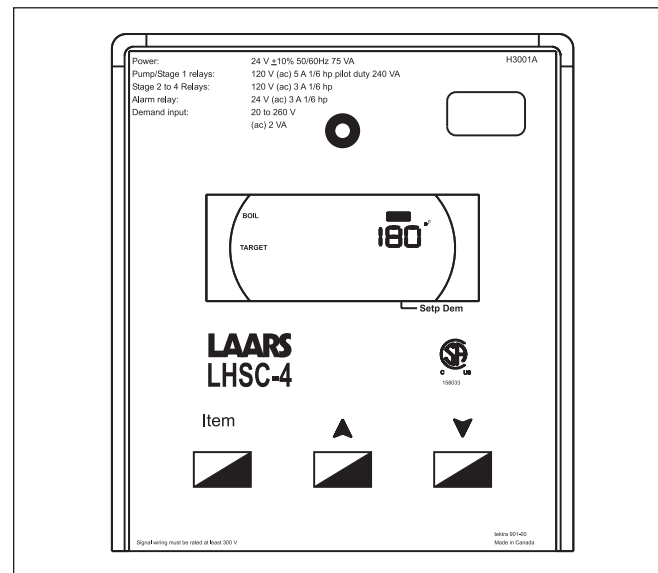

Figure 25. Temperature Control.
There are three black programming buttons on the Temperature Control (see Figure 25). Press and hold all three programming buttons until the word **ADJUST** appears in the upper right corner of the LCD display (it replaces the word **VIEW**).
The control also evaluates the sensor(s) installed in the system. If the control is not in warm weather shutdown (WWSD), and the sensor(s) are below the target temperature, the “Dem” segment is turned on in the display. The control energizes the pump (on pump mounted boilers) and energizes both “PMP” terminals. The pump symbol appears in the display (see Figures 25 and 26). The control then operates the stages to maintain the setpoint temperature.
**Step 2:** Press the three programming buttons to enter **ADJUST** mode (Figure 25). Press **ITEM** to select the programming item, and the arrow keys to adjust the setting. **TARGET TANK** is desired tank temperature. Recommended settings with a desired tank temperature of 125°F:
**Step 3:** Press the three programming buttons to enter **ADJUST** mode (Figure 25). Press **Item** to select the programming item, and the **ARROW** keys to adjust the setting. See Section 6.3 Programming the Temperature Control if more programming instructions are needed.